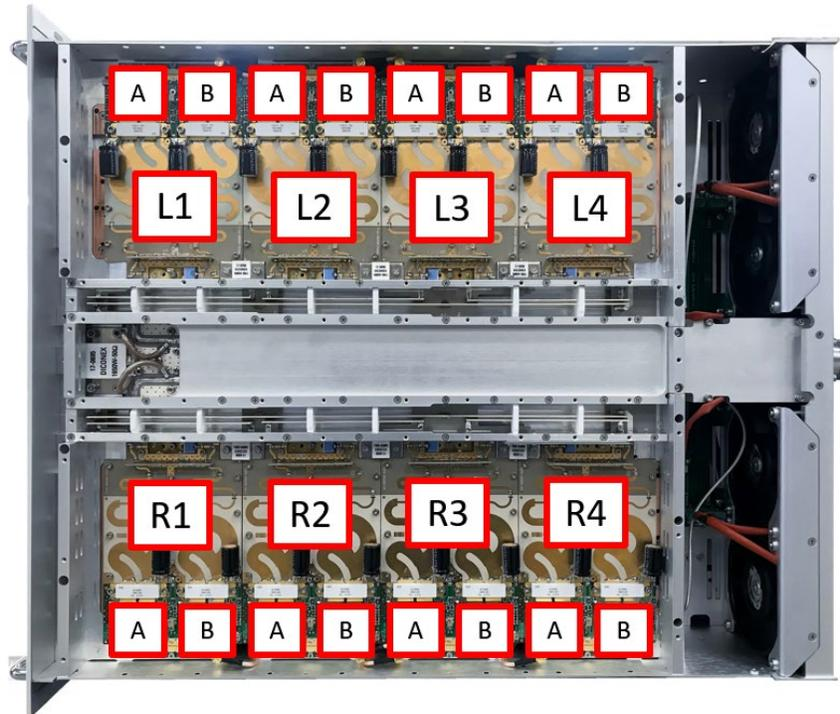

Figure 128: RF amplifier pallet positions, UHF 3.5 RU PA module
STEP 4: Carefully inspect inner workings of PA module for any obvious signs of damage. Look for signs of heat stress or burn marks. If a FET is suspected of being damaged based on a web GUI low/zero PA current reading, locate suspect FET by its ID number in Figure 128.